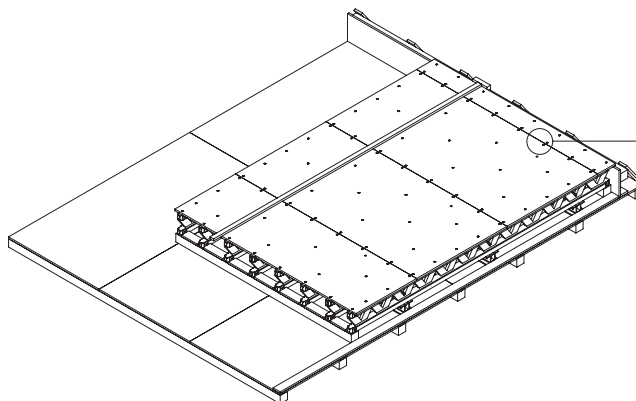

Fig. A1.07
7. Mark position of tie holes and drill Ø 20 holes. (Fig. A1.07)